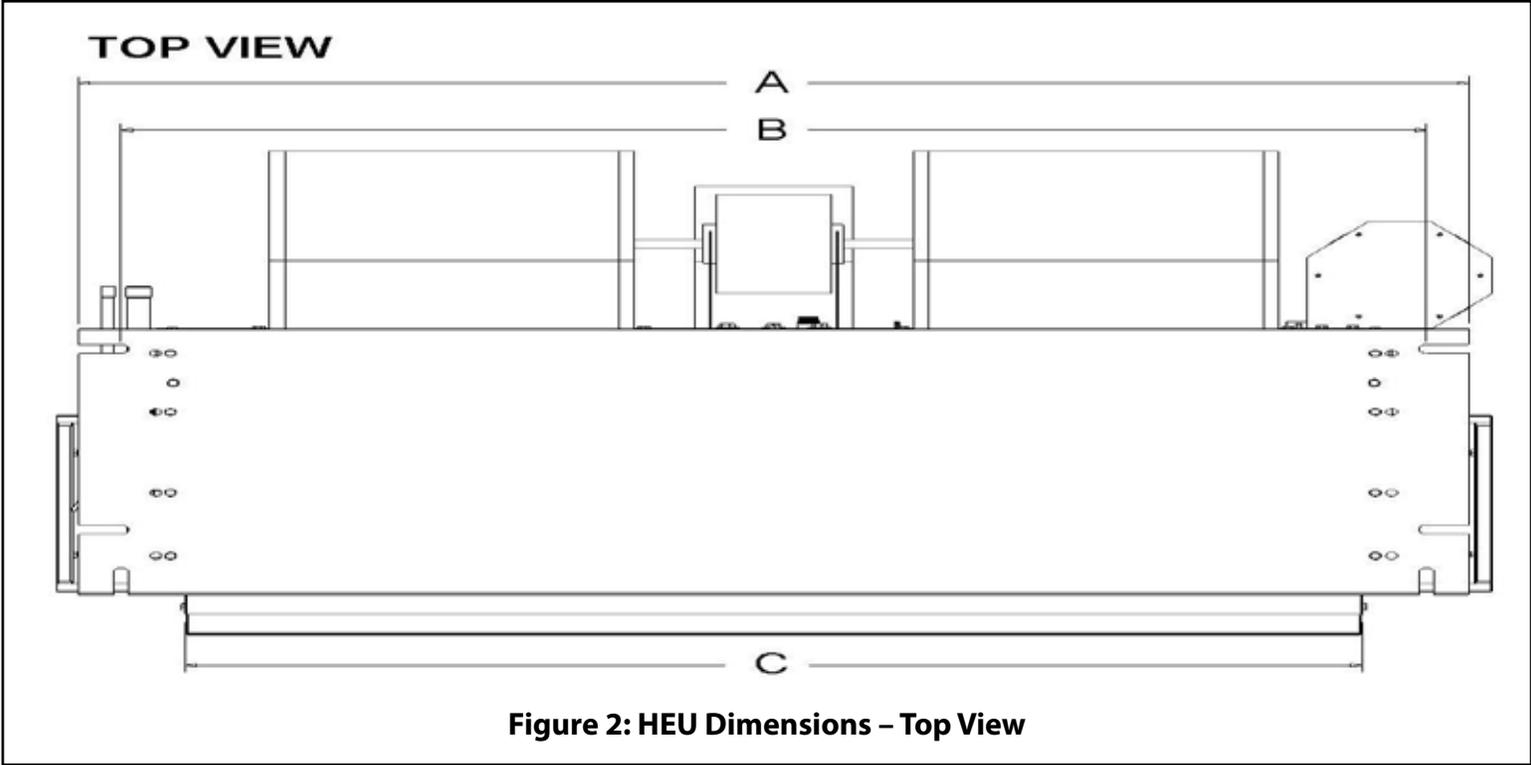

Figure 2: HEU Dimensions – Top View
1. Refer to the air handler rating plate for the air handler model number and refer to the dimensions page of this manual for return air plenum dimensions for the applicable model (see Figures 2 and 3 and Tables 9 and 10). The return air plenum must be installed according to the above listed codes or the instructions in this manual.